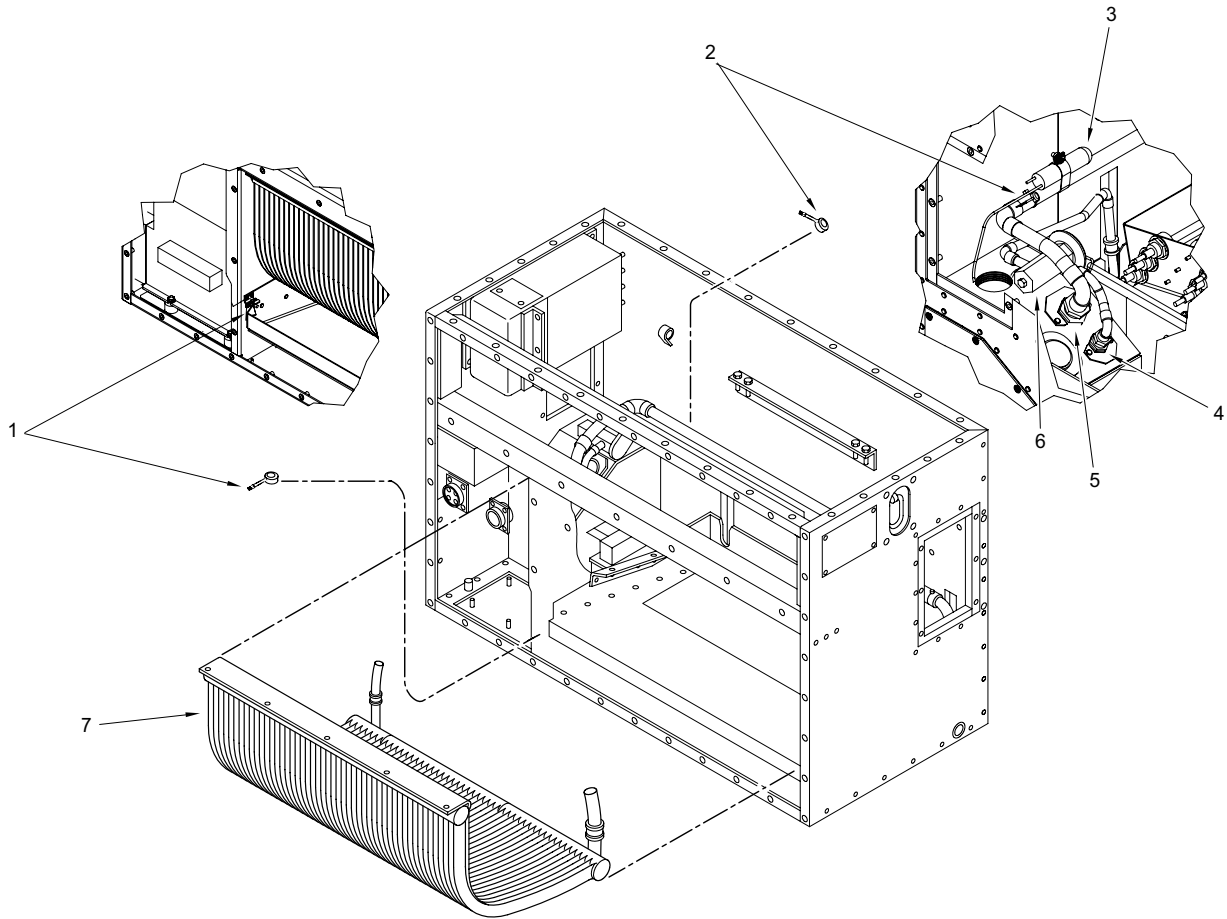

Figure 2. EVAPORATOR COIL ASSEMBLY
8. Note exact position of thermostatic valve (6) on Refrigerant R-410A line. See Figure 2.
9. Wrap wet rags around thermostatic valve (6) body and distributor tubes. See Figure 2
11. Remove thermostatic valve (6). See Figure 2.
12. Remove tape (black cork tape) securing thermistor RV2 (1). See Figure 2.
13. Remove RV2 (1). Figure 2.
4. Wrap wet rags around thermostatic valve (6) body and distributor tubes. See Figure 2.
6. Slip the sensing bulb (3) and thermistor TS1 (2) into its mounting straps. Be sure the bulb is on top of the suction line in original position and tighten the nuts and screws. Be sure the sensing bulb is making good metal-to-metal contact with the suction line. See Figure 2.
7. Replace the insulation tape that was removed from the sensing bulb (3) and thermostatic valve (6) connections.
8. Carefully place the evaporator coil, tubing, and fittings into the housing. See Figure 2.
13. Line up coil assembly (7) and housing screw holes. See Figure 2.
14. Fasten coil (7) to housing with screws and washers.
17. Carefully reconnect the low (4) and high (2) condenser to evaporator Refrigerant R-410A metal hose line connectors to the coupling halves.
18. Install thermistor RV2 (1) at lower left side of coil. See Figure 2.